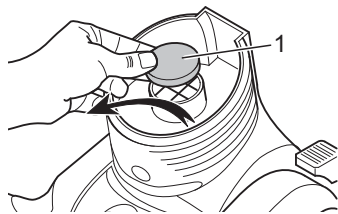

Fig.23
3. Remove the protective motor filter (Fig. 23/1).